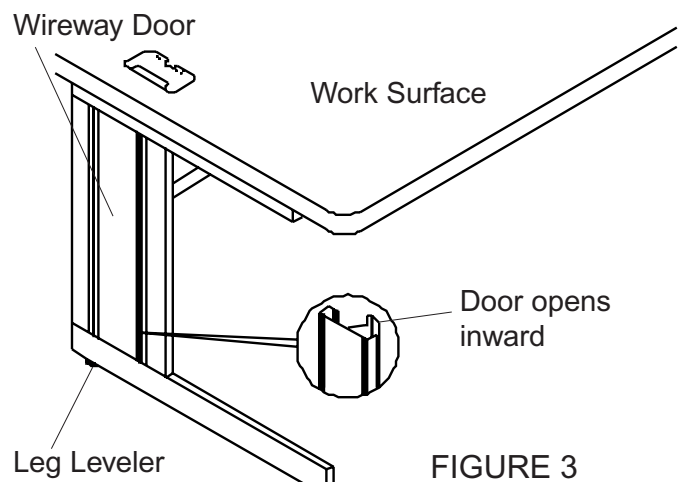

FIGURE 3
6. Both door wireways are shipped installed. The access doors are facing the inside and open inward. (Figure 3) These wireways are reversible and may be removed and reinserted.
7. Level work surface by turning (4) leg levelers either in or out.